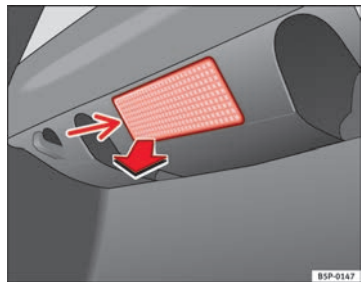

Fig. 167 Luggage compartment light
- Extract the tulip shaped fitting by pressing on the inside edge of this -arrow- using the flat side of a screwdriver ⇒ fig. 167.